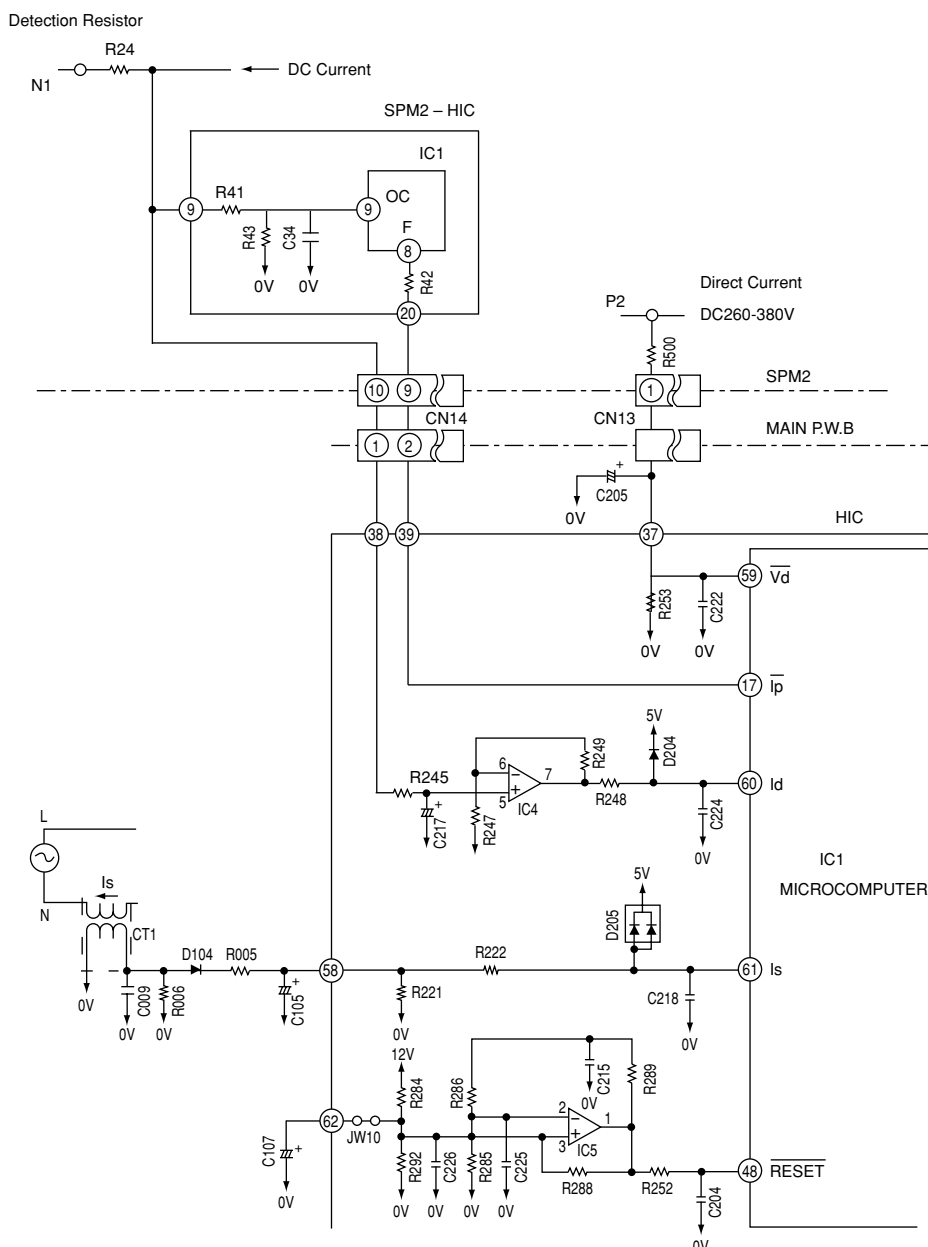
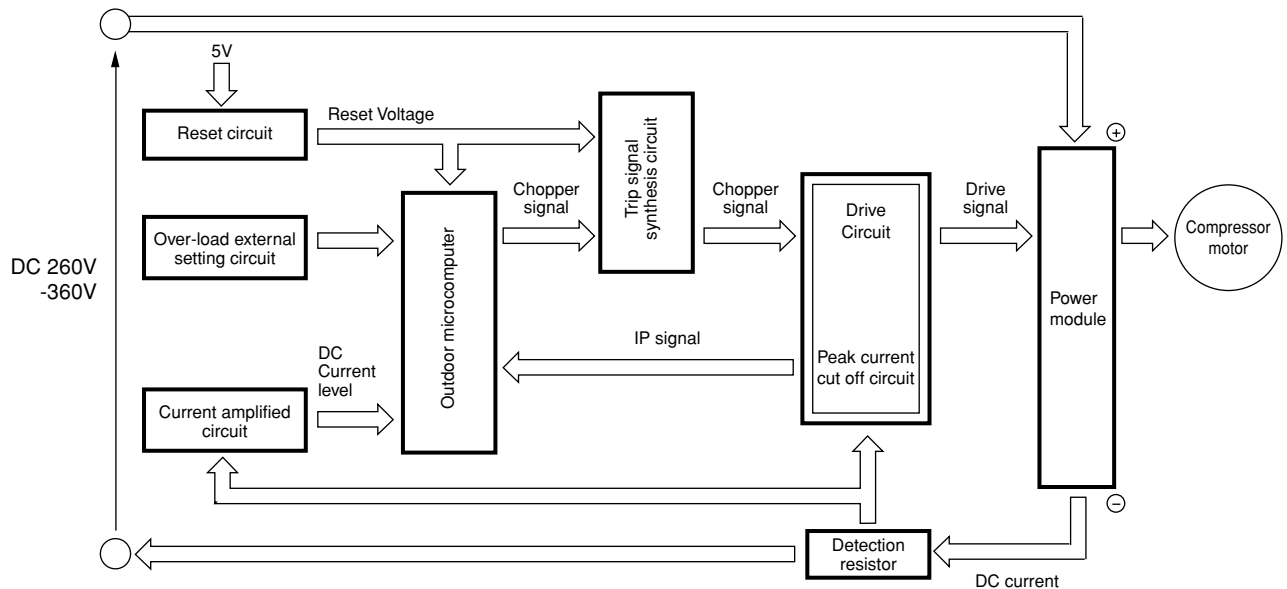

Fig. 8-1 Microcomputer and Peripheral Circuits
Fig. 8-2
- Fig. 8-1 shows the micro computer and its peripheral circuits, Table 8-1, the basic operations of each circuit block, and Fig. 8-2, the system configuration.
①. Overload external judgement circuit
- Fig. 8-1. The filter consisting of R245 and C217 removes high harmonic components from the voltage generated by the current flowing to Detection resistor; R245 and C217 average the voltage. This voltage is then input to IC4 pin ⑤ is then amplified and supplied to microcomputer pin ⑥⑩. The microcomputer compares this input with the internally set value, and if the input exceeds the set value, it enters overload control status.